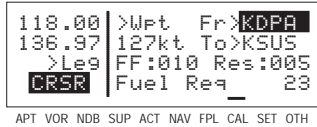

Figure 4-58
3. Turn the right outer knob clockwise to move the cursor to the "from" waypoint in the upper right corner of the screen (figure 4-58).